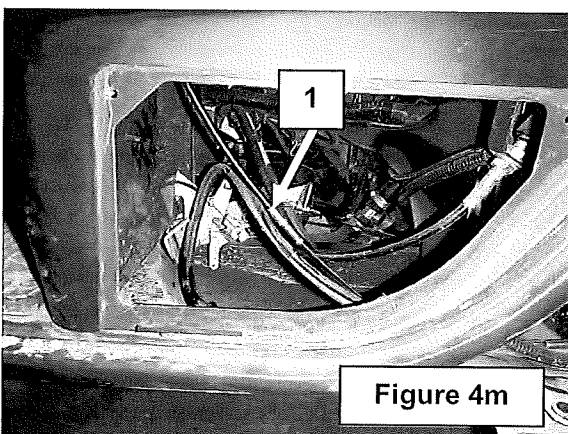

Figure 4m
15. **Figure 4m:** Route the cable toward the battery.